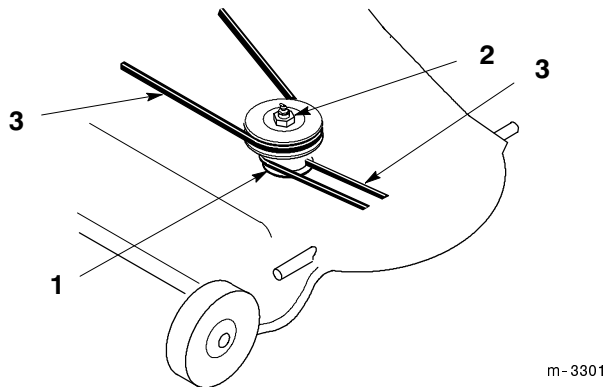

Figure 8
3. Slide the new double pulley onto the spindle shaft with the word "TOP", stamped into largest pulley, facing up. Secure with previously removed 5/8" lock washer and nut (Fig. 8).
5. Install the blower drive belt around the bottom pulley as shown (Fig. 8).
6. Reinstall the existing mower belt onto the top pulley (Fig. 8).